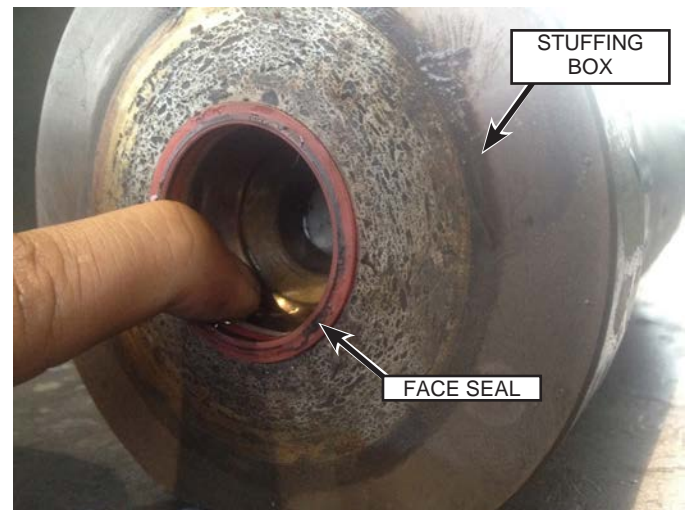

Fig. 84: Face Seal Removal
1. Press slightly behind the face seal using your finger and gently pull the seal out as shown in (Fig. 84).